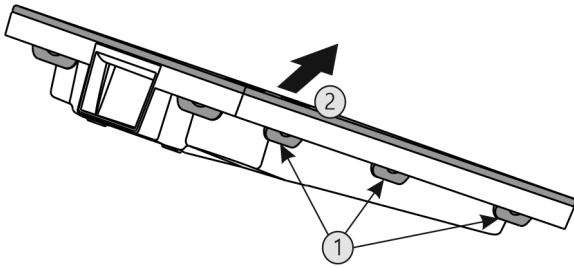

Fig. 49
- Press all lugs Fig. 49 (1) in succession and remove the lid Fig. 49 (2).